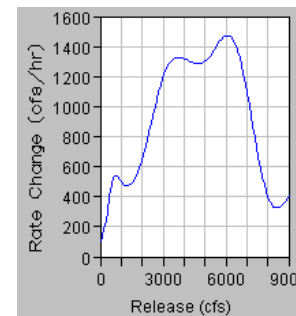

Figure 11.42 Cubic Interpolation Method
- **Cubic Interpolation** (Figure 11.42) will cause the program to interpret the table as a 3-point Cubic Spline curve. The interpolation between entered values is determined by the cubic spline function defined with each three consecutive rows in the table.